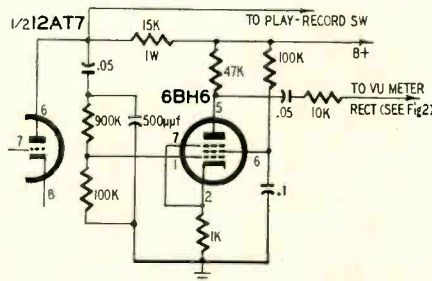

Fig. 4—Amplifier stage for VU meter.
2. *Modification of VU circuit.* I considered either doing without the VU meter or substituting a 6E5 or similar electron-ray indicator to eliminate the distortion caused by loading the VU circuit directly onto the audio signal. However, the Pentron's meter together with the meter rectifier has sufficient bandwidth to be very useful—about 3 db down at 50 and 10,000 cycles. Therefore, I decided to isolate the VU circuit from the audio signal by adding a VU amplifier stage (Fig. 4).
The values in Fig. 4 are approximately such that when program transients read 0 on the VU meter, the actual transient level is about 6 to 8 db above 0. This is because the meter, a mechanical device, cannot fully follow transients. Tape tests showed that